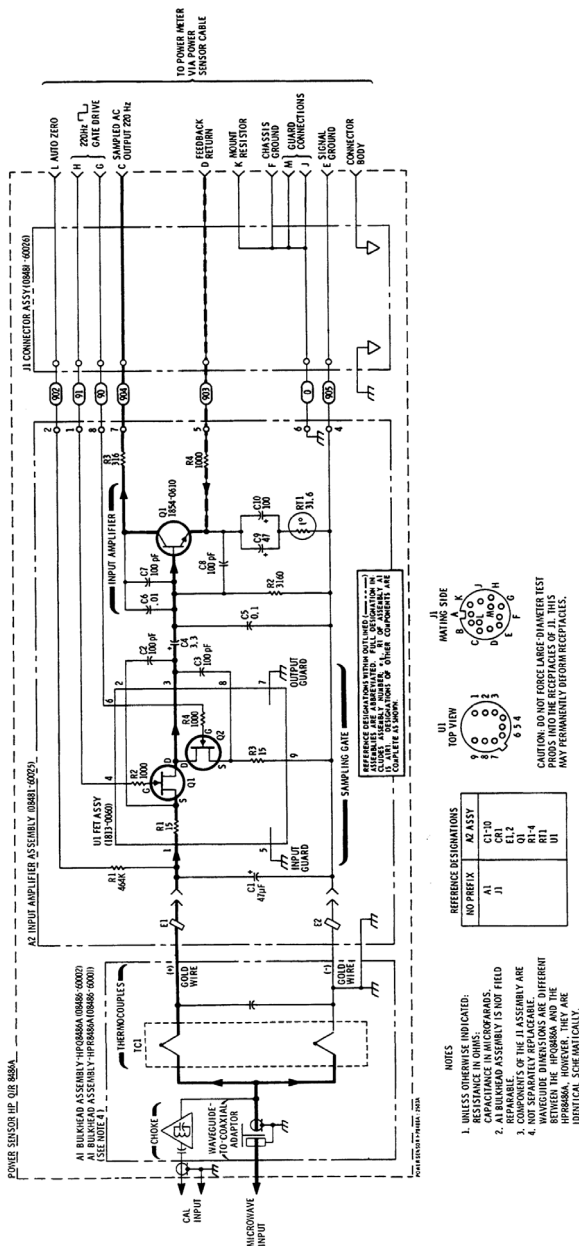
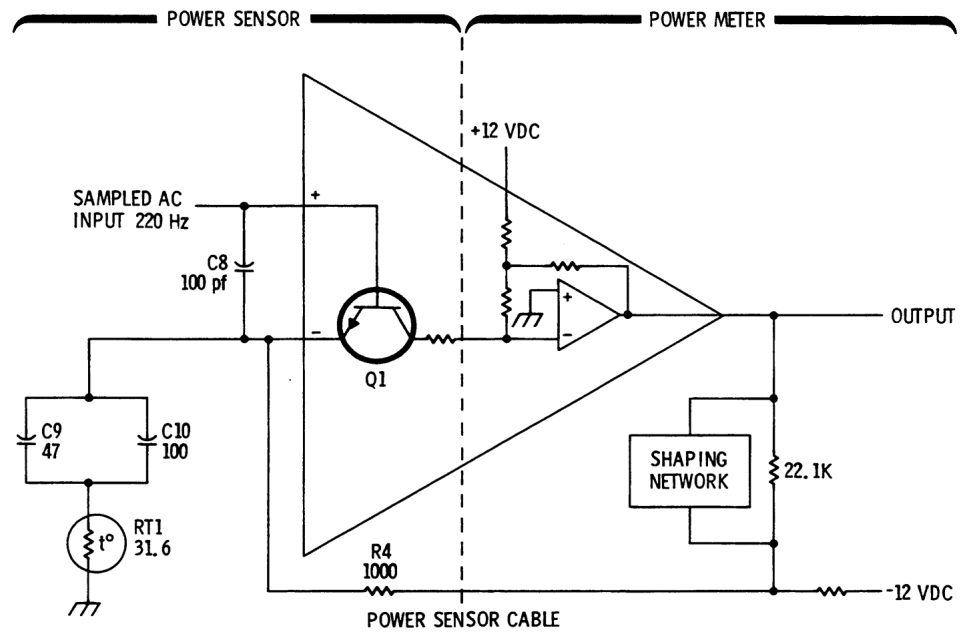
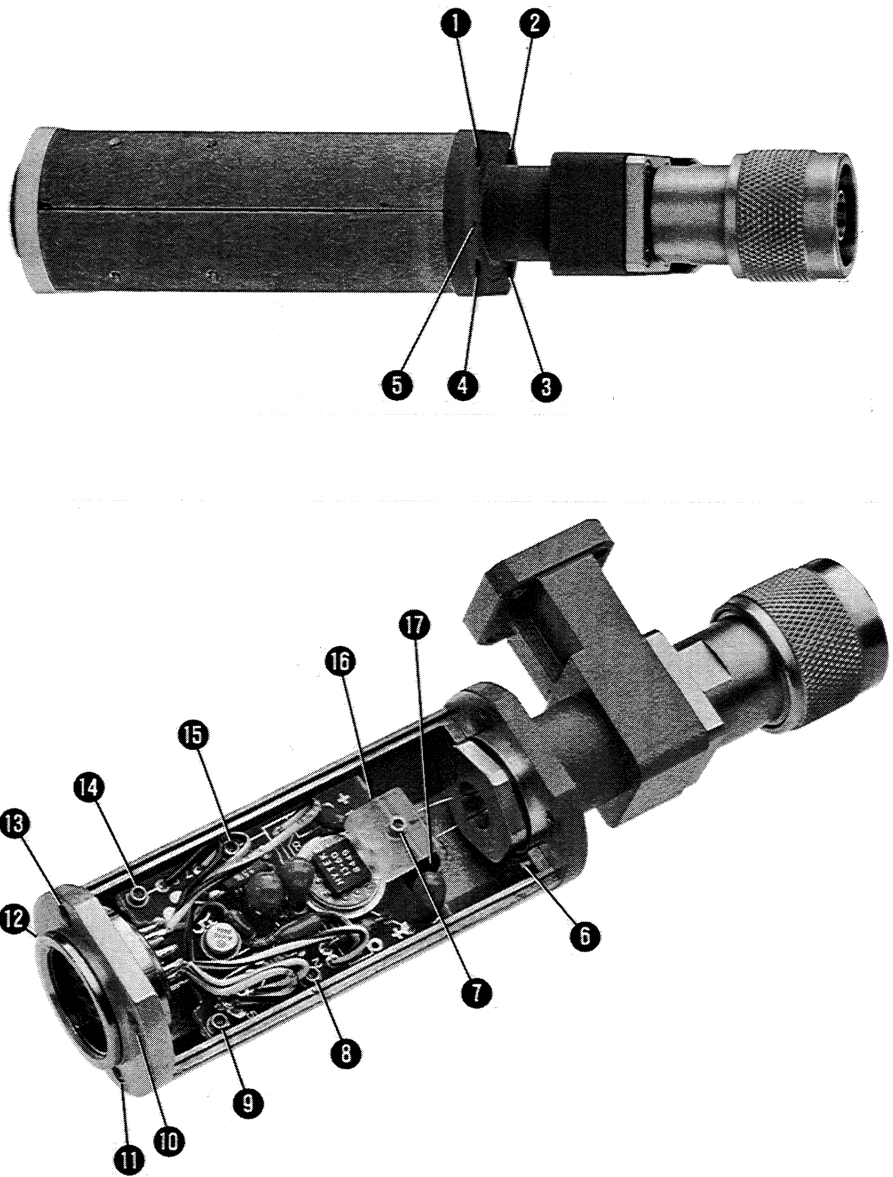

Figure 4-5 Power Sensor Schematic Component and Assembly Locations
Figure 4-6 Operational Amplifier
Figure 4-8 Power Sensor Hardware Locations
For the following discussion, refer to the schematic diagram in Figure 4-5 and the simplified diagram of the operational amplifier in Figure 4-6. The operational amplifier is made up of the power sensor input amplifier, A2Q1, and the first amplifier stage in the power meter.
The RF signal is absorbed by the thermocouples which generate a dc voltage proportional to the RF input power. The dc voltage is routed from the thermocouples to the input amplifier on gold wires to reduce undesired thermocouple effects. The gold wires pass through ferrite beads A2E1 and A2E2 which are located in the black plastic book. (See Figure 4-5.) The ferrite beads increase the self-inductance of the gold wires causing this portion of the wires to provide the properties of an RF choke. The result is to minimize RF feedthrough to the A2 Input Amplifier Assembly.
The dc output from the bulkhead assembly is applied to the two field effect transistors (FETs) in A2U1. These transistors function as a sampling gate or chopper. The sampling rate is controlled by a 220 Hz square wave supplied by the power. The amplitude of the sampling gate output (at pin 3 of A2U1) is a 220 Hz square wave proportional to the power input. The sampled 220 Hz ac output is applied to the input amplifier A2Q1 which is the input stage for an operational amplifier (Figure 4-5). The ac gain of the operational amplifier is approximately 700.
In most cases, the operational amplifier (made up of A2U1 and the first amplifier in the power meter, Figure 4-6) is operating correctly if the dc voltage on the metal cover of A2Q1 (collector) is -70 ± 30 mV dc.
- a** Set printed circuit board and connector into place as shown in Figure 4-8, opened view.
- b** Insert cap screws (8), (9), (11), (12), (14), and (15) but do not tighten.
- c** Center A2 circuit board so there is equal air gap between each side and chassis. Tighten cap screws (8), (9), (14), and (15).
- d** Remove black plastic block (17) from printed circuit board. Position bulkhead assembly with small hole (5) on your left; position block (17) with flat side towards bulkhead assembly (grooved side out), and guide pins down. Insert gold wires through holes in block (17) (MP25, Figure 4-5).
- e** Set bulkhead assembly straight down on chassis. Mate two guide pins on block (17) with two holes in printed circuit board (Figure 4-5).